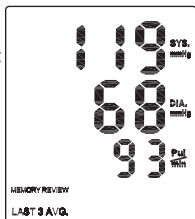

Fig. 1
1. When the monitor is off, press and release the MEM button. The average blood pressure and pulse measurement of the most recent three readings will show with the M and AVG icons on the screen, Fig 1.